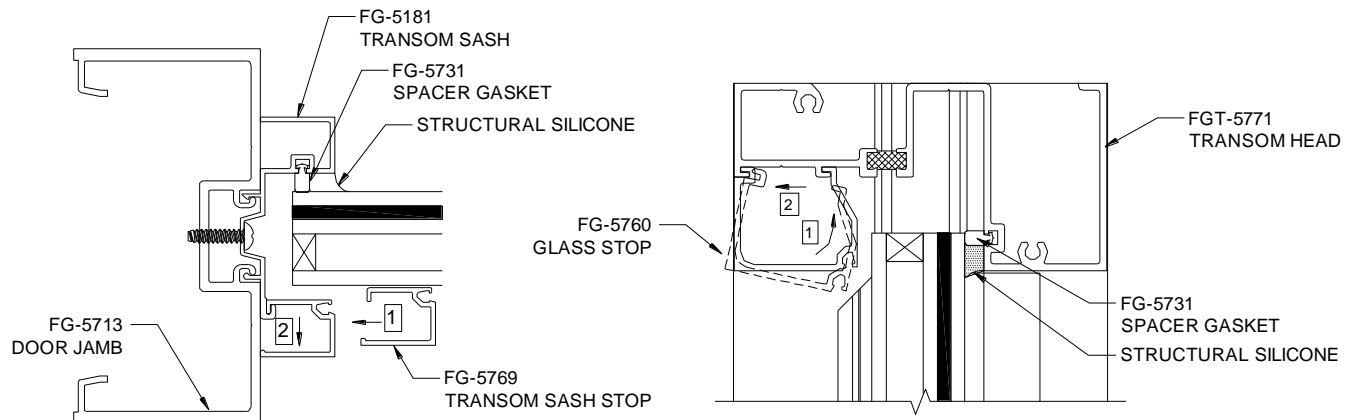

Figure 33: ArmorDefend™ Glass Stop and Transom Sash Stop Installation
- 13.1.2.8 Install the Glass Stop: insert Glass Stop by the glass and slide forward to hook the leg in the Transom Head. The **FG-5760** Glass Stop installation is shown in *Figure 33*.
- 13.1.2.9 Install the Transom Sash Stop: insert Transom Sash Stop by the glass and slide forward to hook the leg in the Transom Sash. **FG-5769** Transom Sash Stop installation is shown in *Figure 33*.